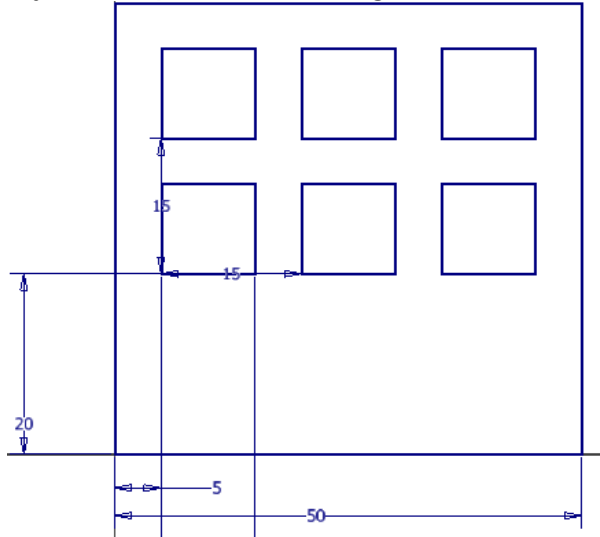

Figure 1.81
- In this Hands-On, you will pattern rectangular sketches as shown in Figure 1.81